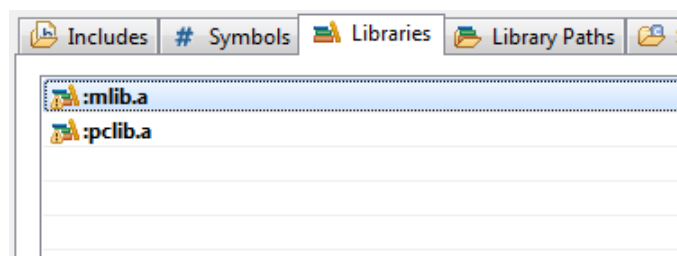

Figure 1-24. Libraries
9. After adding the library paths, add the library files. Click the Libraries tab. See Figure 1-24.
14. Click OK, and you will see the added in the list. See Figure 1-24.